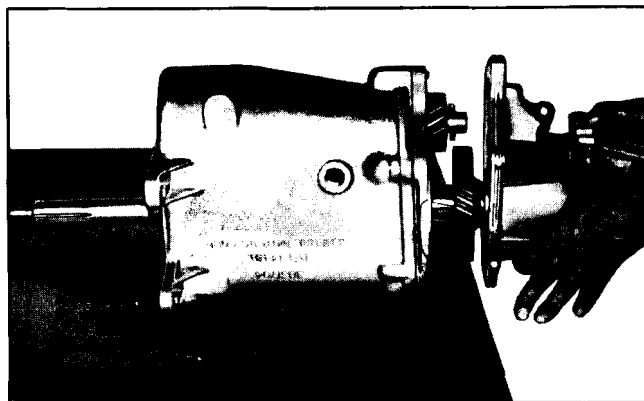

Fig. 7D-35 Installing Rear Extension To Case
31. Position reverse gear at rear of spline, pull reverse shifter shaft to left side of extension and rotate shaft to bring reverse shift fork forward in extension (reverse detent position). Start the extension onto the transmission case (Fig. 7D-35), while slowly pushing in on the shifter shaft to engage the shift fork with the reverse gear shift collar. Then pilot the reverse idler gear shaft into the extension, permitting the extension to slide into the transmission case.